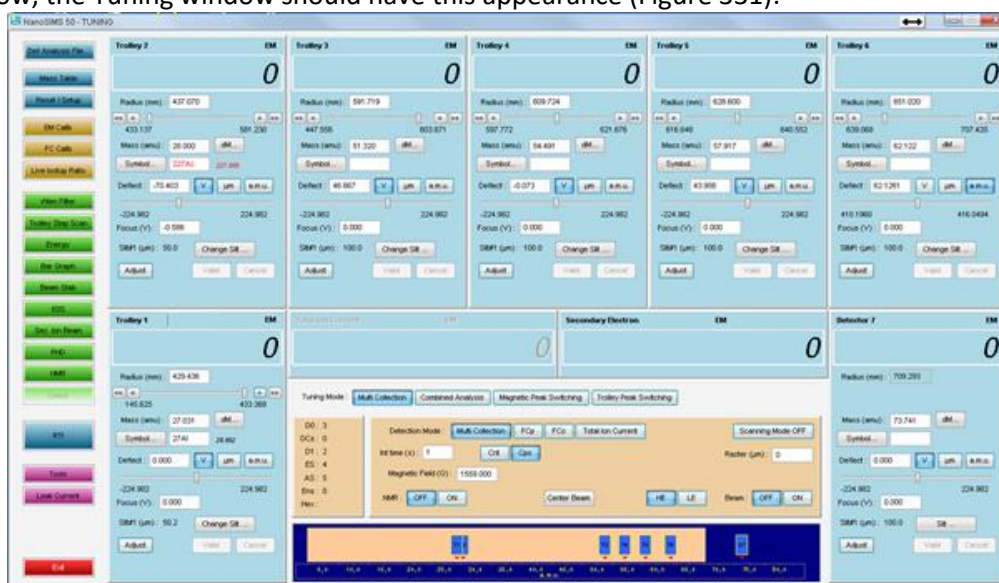

Figure 331: Tuning window in multicollection mode
- Now, the Tuning window should have this appearance (Figure 331):